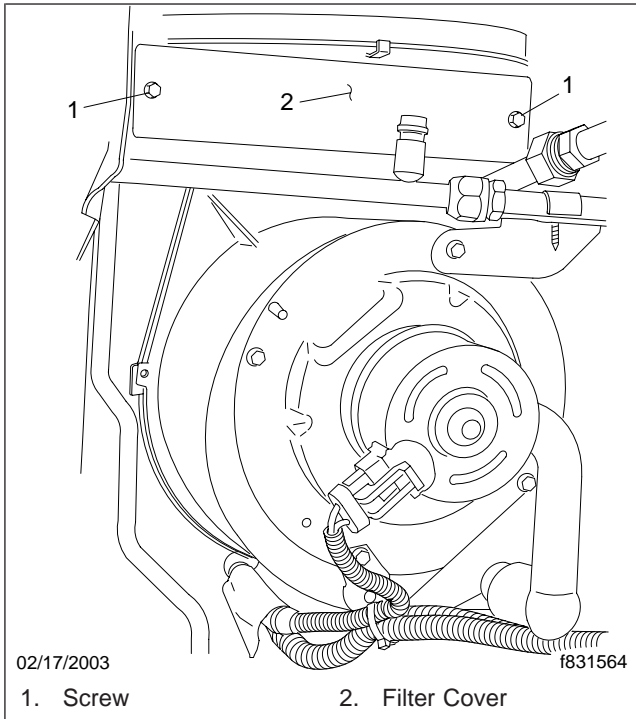

Fig. 2, Air Filter Replacement
3. Remove the screws that attach the filter cover to the filter housing. See **Fig. 2**.